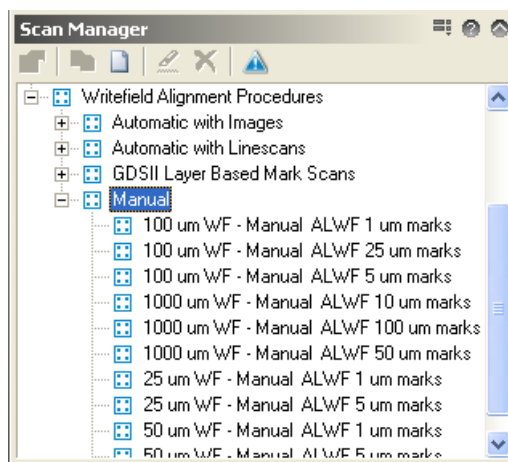

Figure 19: Manual align-writefield procedures.
4. In the Scan Manager (see figure 19) select 'Writefield Alignment Procedures ->Manual'. Drag ,100 um WF - Manual ALWF 25 um marks' into the Position list.